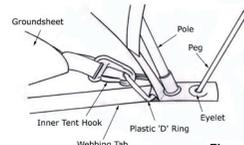
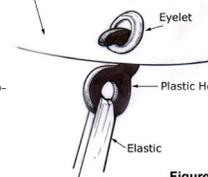

Figure 4
Figure 5
7. Gather up the inner tents, ensuring that their doors are closed, and take them inside the tent. The uppermost hanging point on the bedroom (at the back and front) matches a coloured tab that is next to the correct eyelet in the flysheet (see figure 5 below). Start at the rear edge of the inner and attach the hooks that are on the corners of its groundsheet to the "D" rings located on the main groundsheet (see figure 4).
8. Then, working systematically, attach the inner to the eyelets located on a fabric tabs sewn to the inside of the flysheet (see figure 5).